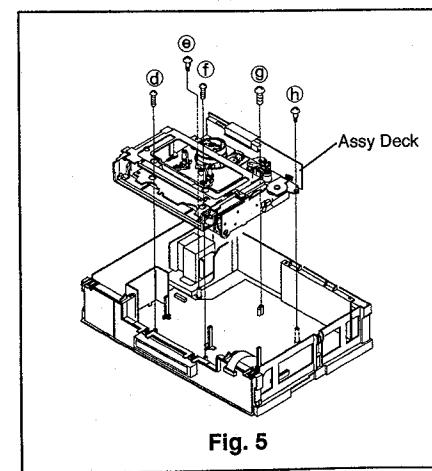

Fig. 5
- ④ Remove the five screws (Ⓓ~Ⓗ) holding the Assy Deck, shown in Fig. 5, and disconnect the connectors [ML], [MM] and [ME].
- ⑤ Slowly raise slowly the Assy Deck upward to remove it.